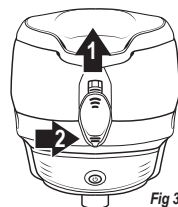

Fig 3.2
2. With one hand, push the Button Lock upwards and with the other hand, press the Shell Release Button inward (Fig 3.2) to split the Upper Shell and Lower Shell.